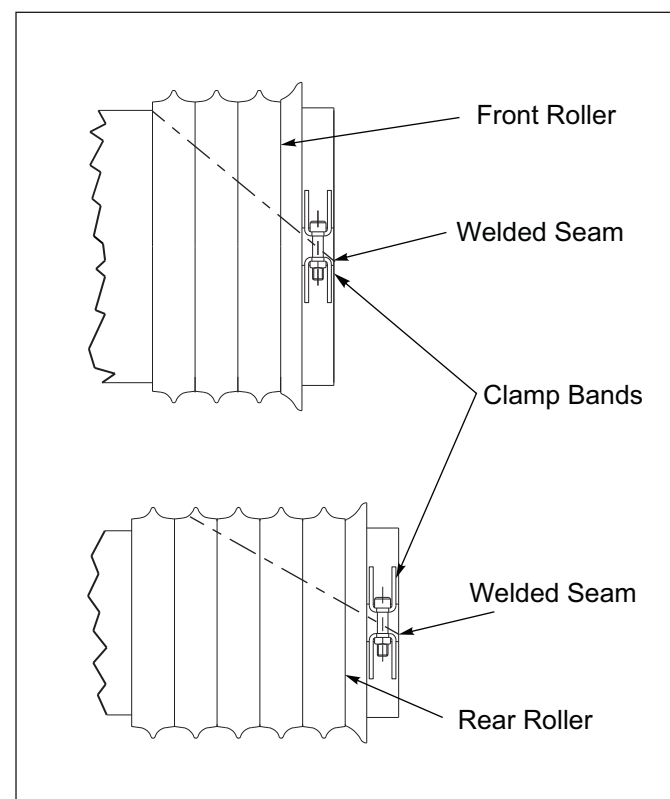

Figure 5-5: Roller Adjustment
3. Slide the Clamp Band against the End Wheel on each end of the Roller and tighten the Clamp Band Bolt to 75 Ft-Lbs. **See Figure 5-5.**